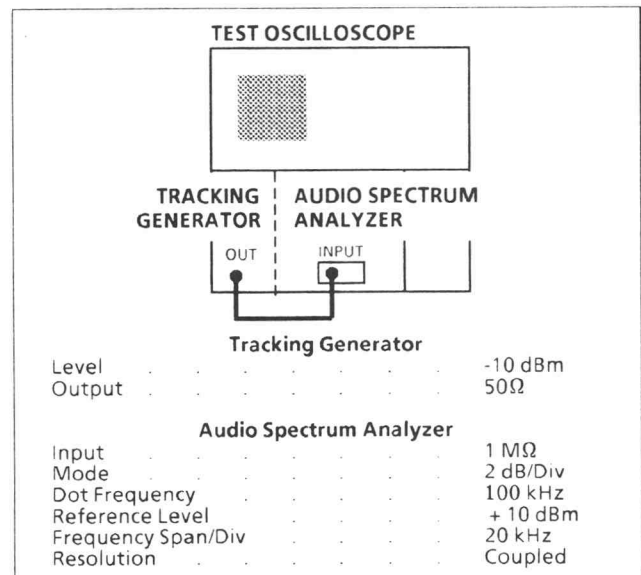

Fig. 4-31. Setup for characterizing the tracking generator audio spectrum analyzer.
- Connect and set the test equipment as shown in Fig. 4-31.